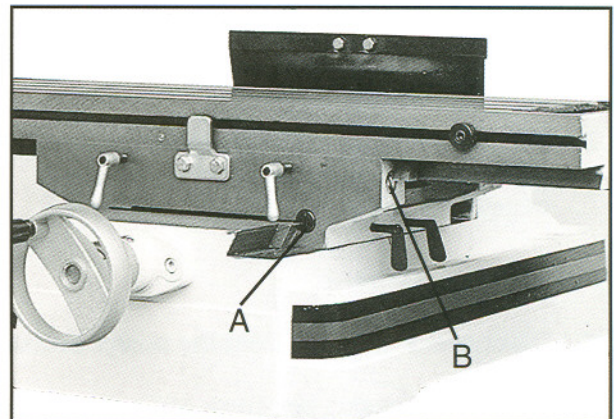

Fig. 13
1. The horizontal gib adjustment screw (A, Fig. 13) is found to the right on the table face. The traverse gib adjustment (B, Fig. 13) screw is found on the right side of the saddle under the table.